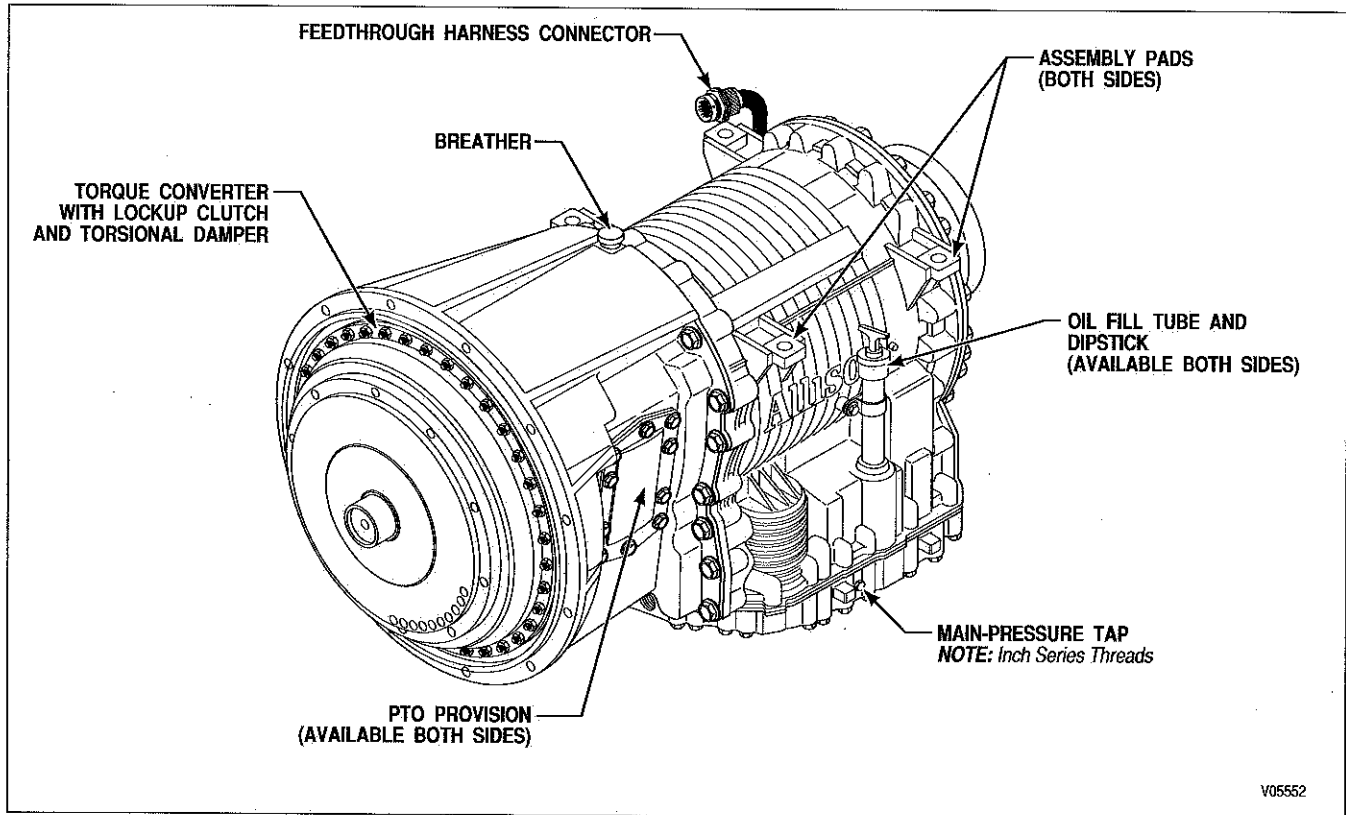

Figure 1-1. 3000 Product Family Transmission with PTO Provision—Left-Front View
**a. Content and Organization.** This Service Manual describes overhaul procedures for 3000 Product Family automatic transmissions (Figures 1-1 through 1-8).